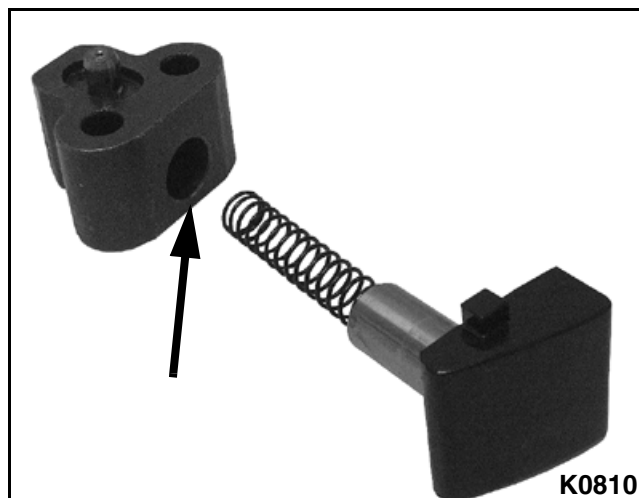

Figure 3-185
1. Fill timing chain tensioner body with clean engine oil prior to installing to the cylinder block. **See Figure 3-185.**